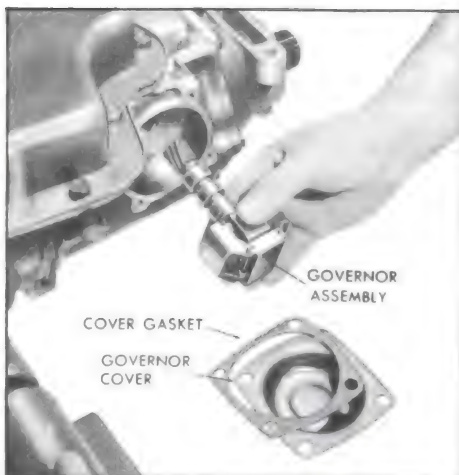

Figure 5-728
1. Install the governor assembly into the case. See Figure 5-728.